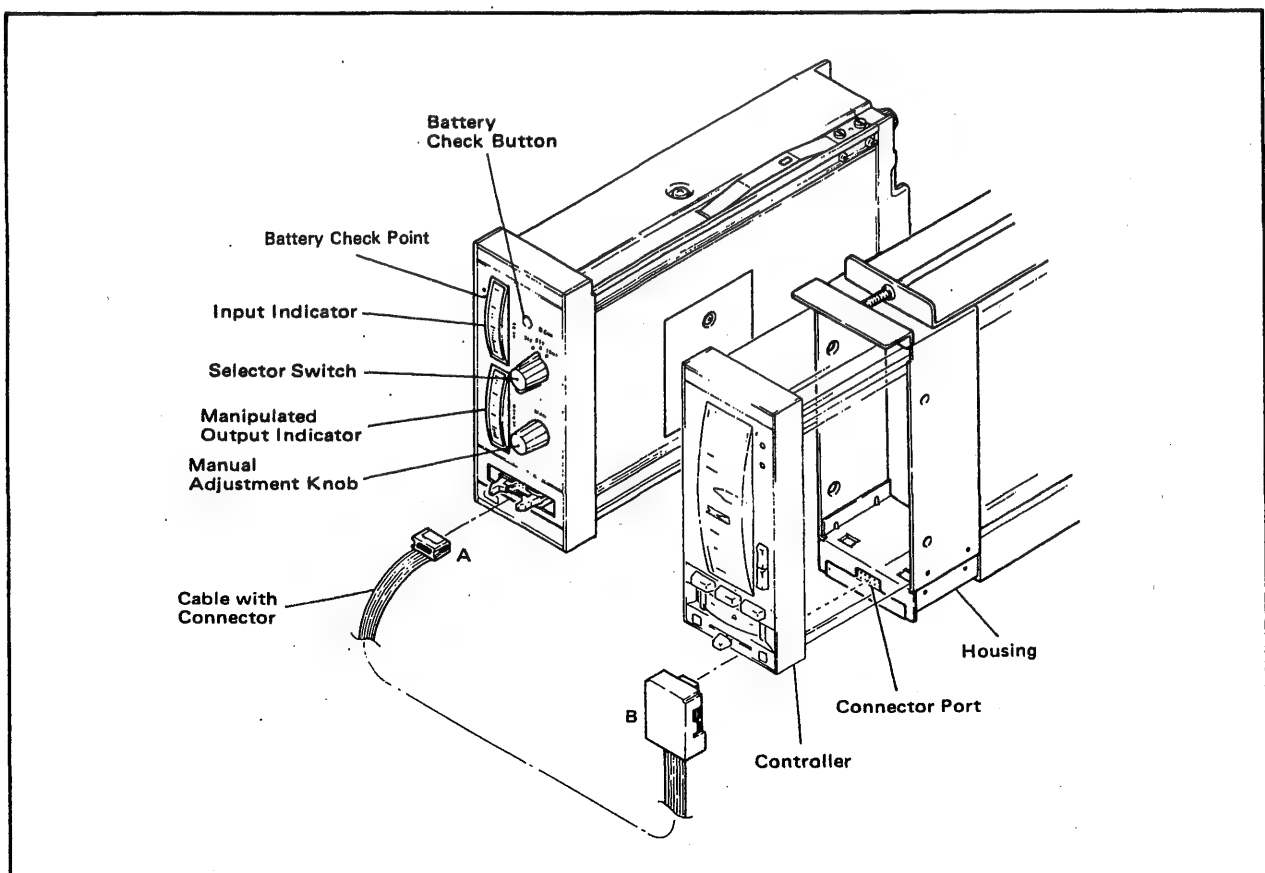

Figure 5-7-1. SPBD Connection.
- (2) Insert the cable connector from the SPBD manual control station into the jack at the bottom of the SLPC housing and switch the controller output from the SLPC to the SPBD. (See Figure 5-7-1.)
- (3) Select the CHECK item on the tuning panel and determine the cause of the failure. (See Section 5-7-4.)